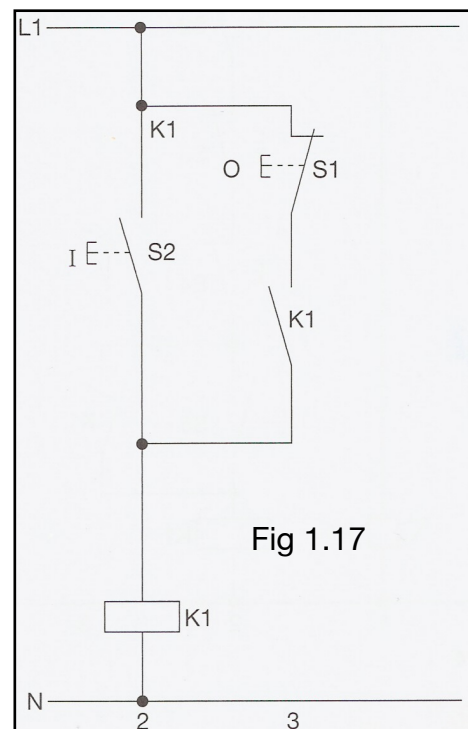

Fig 1.17
2. Start-stop (voorrang start) (Fig 1.17)